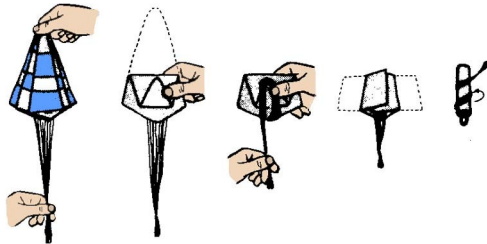

Figure 8
- **Step 22** Use the illustration in Figure 8 to see how to fold the parachute for flight. Form a spike by taking the center of the parachute in one hand and pulling taut the shroud lines with the other. Fold into thirds, then bring the sides together, and finally wrap the lines around the parachute. Don't wrap too tightly, or the parachute might have trouble opening. The parachute should be able to slide loosely into and out of the body tube.